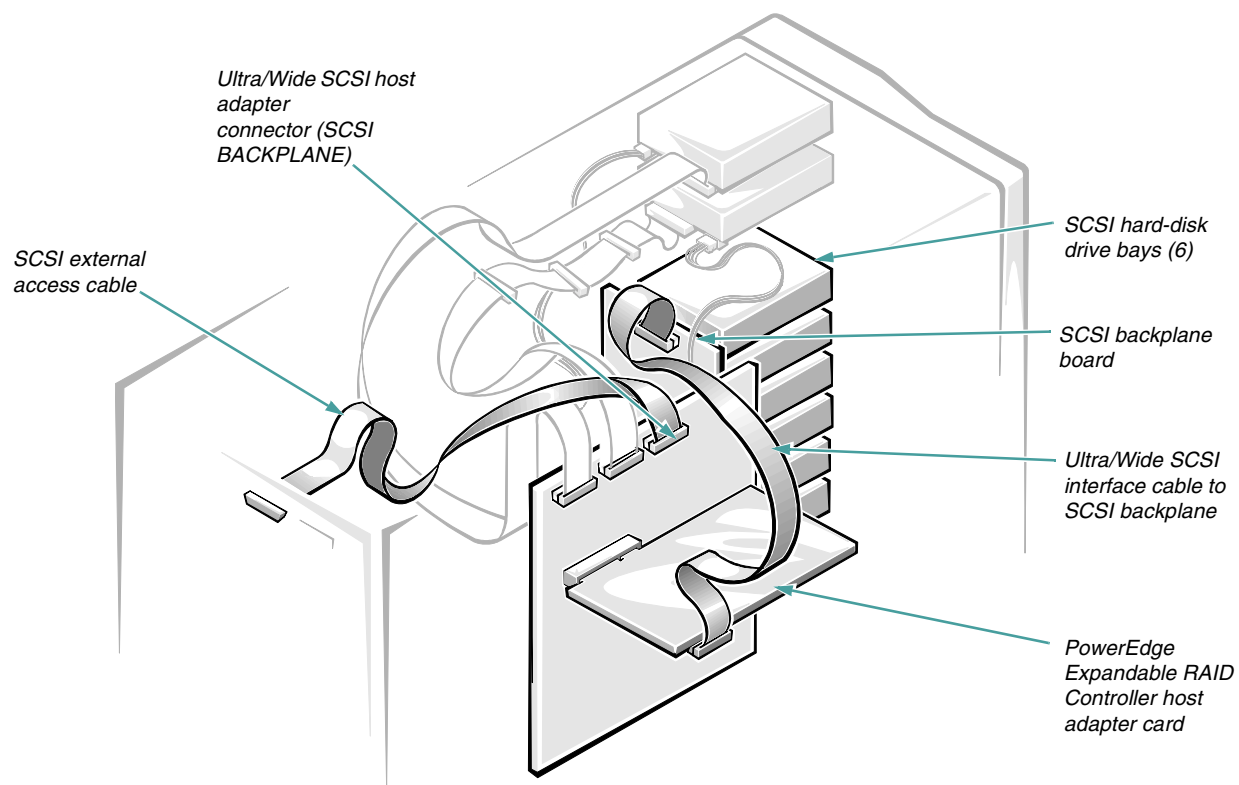

Figure 10-3. Cable Configuration for a PowerEdge Expandable RAID Controller Host Adapter Card
5. Connect the new Ultra/Wide SCSI cable provided in the PowerEdge Expandable RAID Controller kit to the connector labeled “SCSI” on the SCSI backplane board (see Figure 10-3).